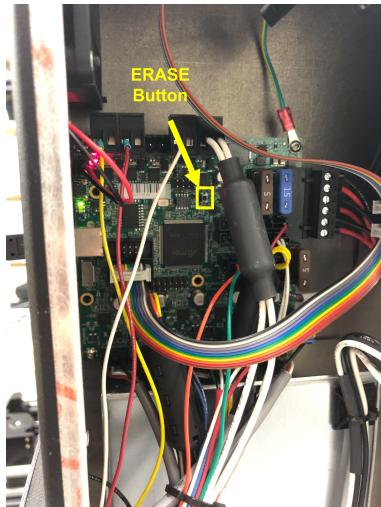

Fig. 1. Location of the ERASE button.
3. Hold the ERASE button, shown in Fig. 1, for 1 second to clear the EEPROM memory (this switches the board from “Operating Mode” to “Uploading Mode”).